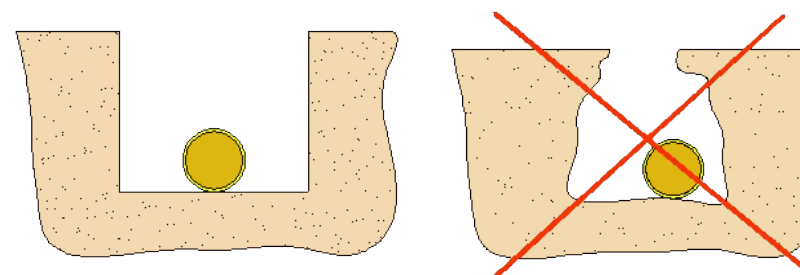

Figure 58 - Correct and incorrect excavations
18. Tunnelling and undercutting should be avoided (Figure 58).